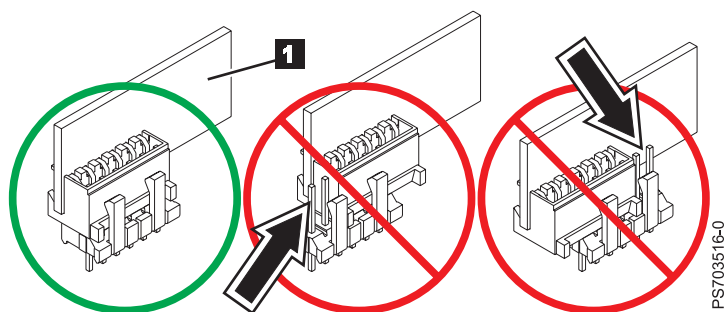

Figure 47. Installing the management card
To install the management card, which is shown by **1** in Figure 47, complete the following steps:
4. Insert the management card (as shown by **1** in Figure 47) and verify that the card is securely on the connector and pushed down all the way to the main board.